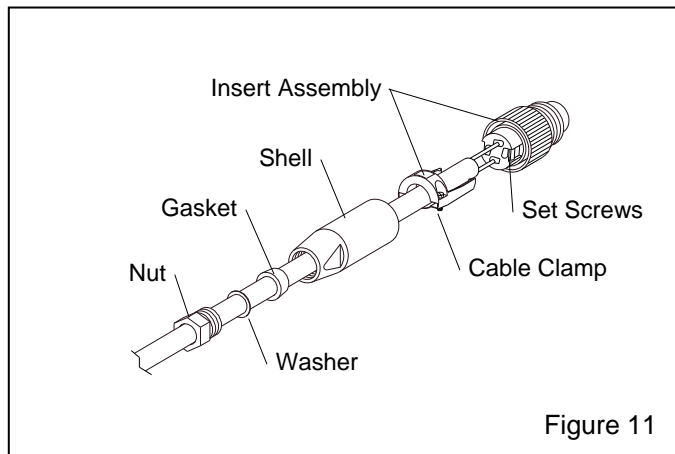

Figure 11
**6.6.4.3** Remove the compression nut, thrust washer and gasket from the connector shell per Figure 11.